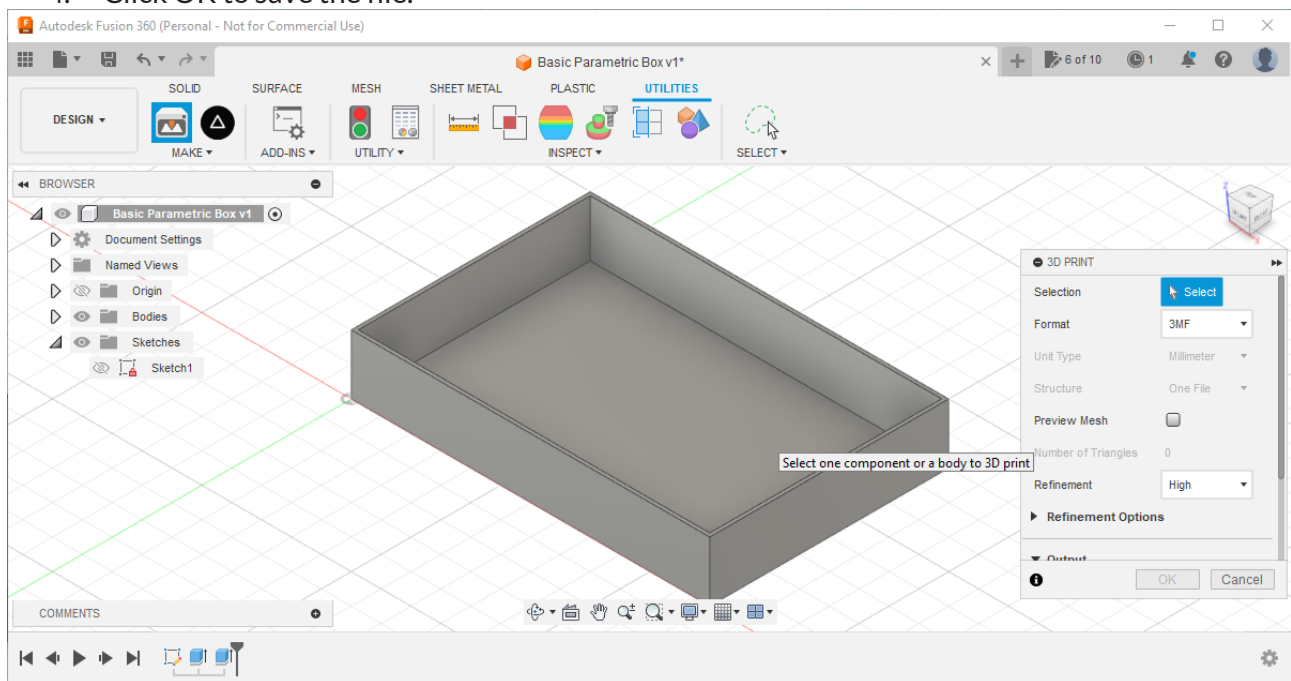

Figure 12: Exporting the body as a 3mf file for printing
2. Click the joined base and wall body as the selection as in Figure 12.